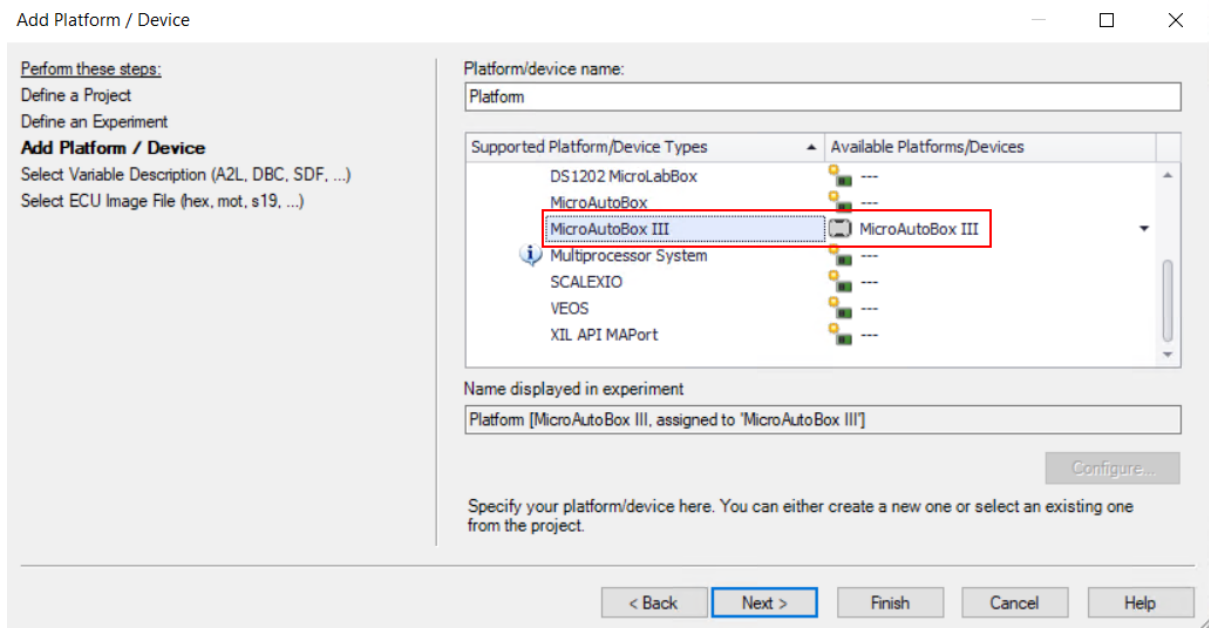

Figure 13.51: Select the dSPACE platform.
- 4) Select the platform to which you will deploy the generated executable (see Figure 13.51).